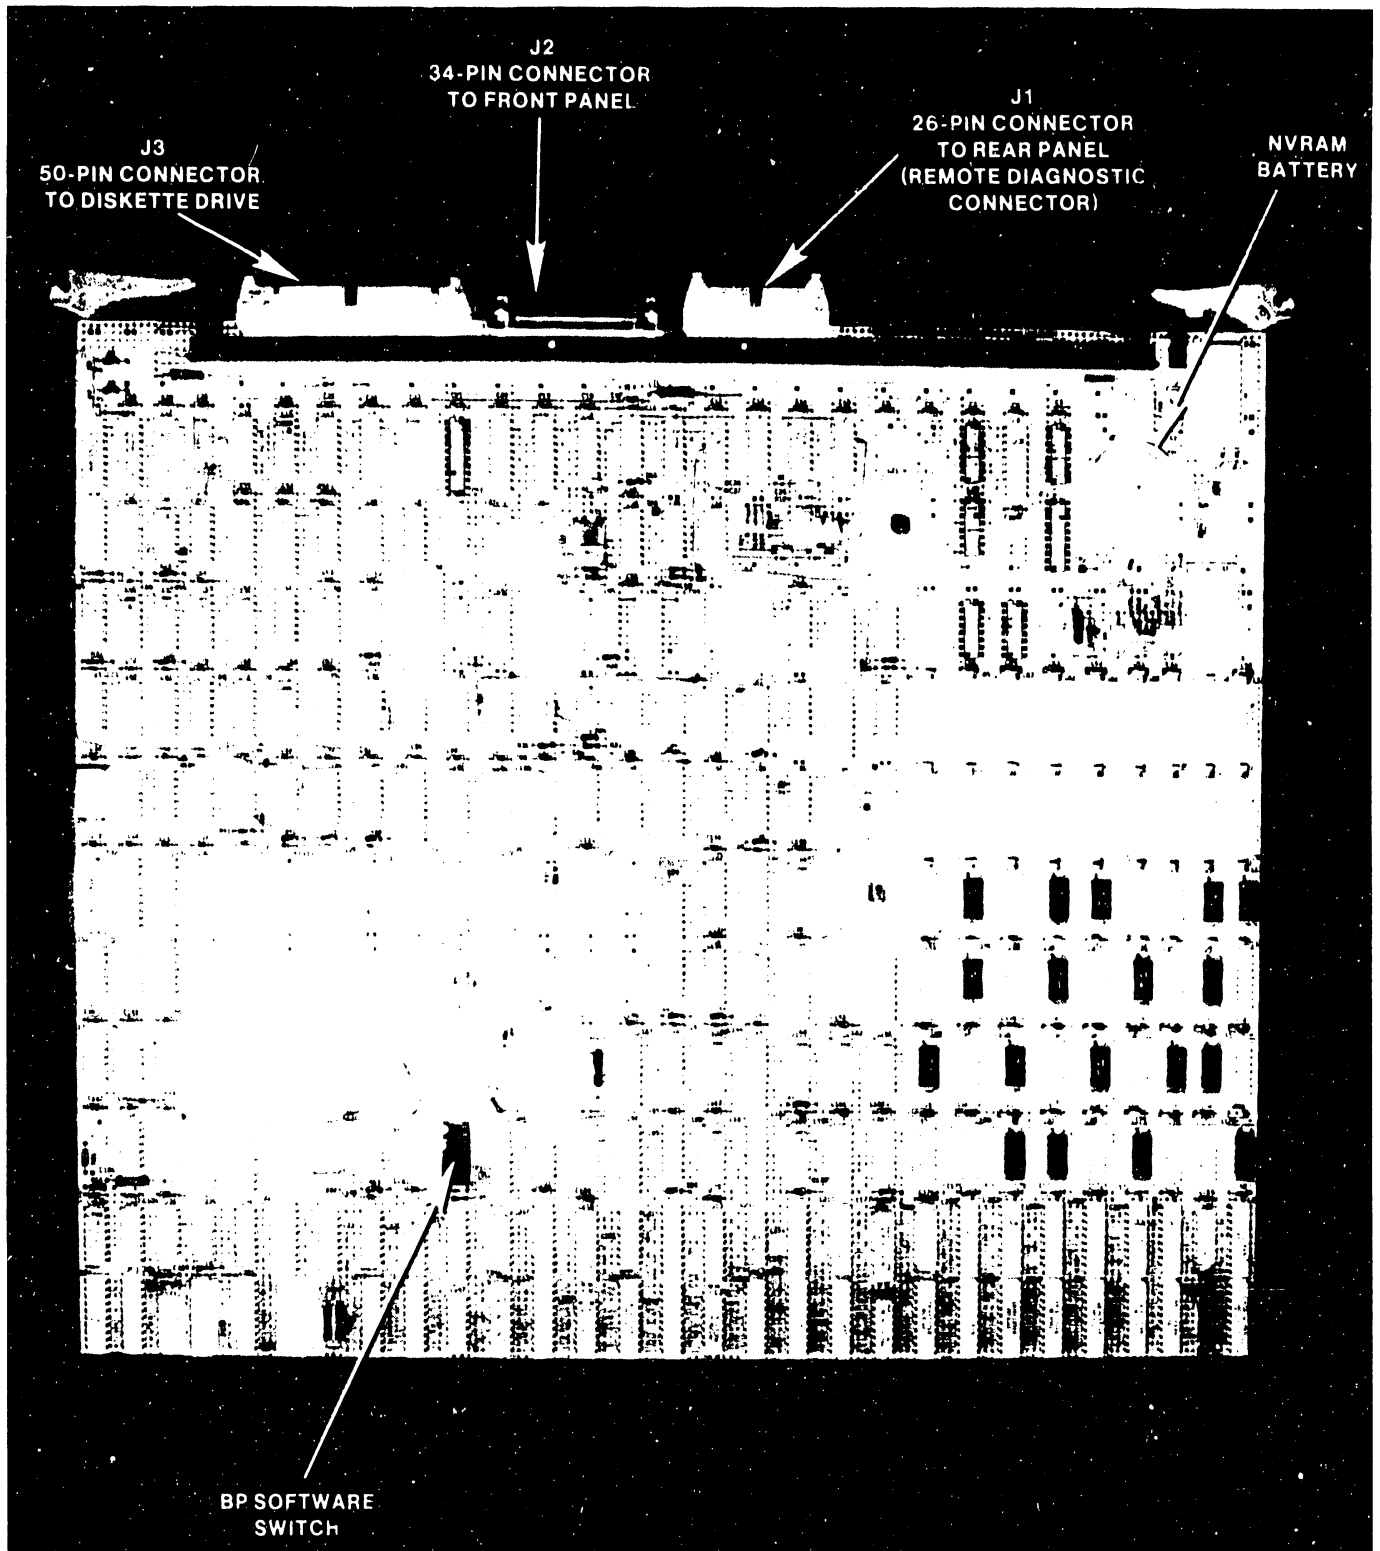

Figure 5-6. 210-8304 Bus Processor Board
11. Before removing the BP board (figure 5-6) from Motherboard slot #3, disconnect the 26-pin connector from J1, the 34-pin connector from J2, and the 50-pin connector from J3 of the board.